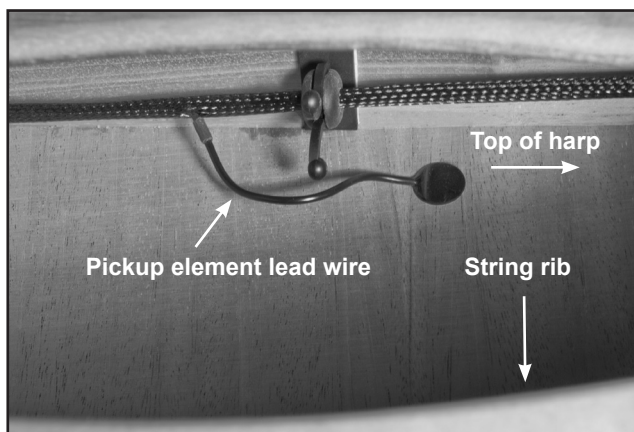

Figure 7 – Pickup Element Installation
2. Orient the harness so the pickup element lead wires point toward the string rib, away from the side of the harp (*see figure 7 on next page*).
- d. The lead wire should naturally curve away from the soundboard (see figure 7). If necessary, adjust the pickup harness in the clips to ensure that the lead wires won't touch the soundboard and cause unwanted vibration.
- e. For all Dusty Strings harp models except the FH36S, the pickup element lead wire will bend upward, toward the top of the harp (see figure 7).